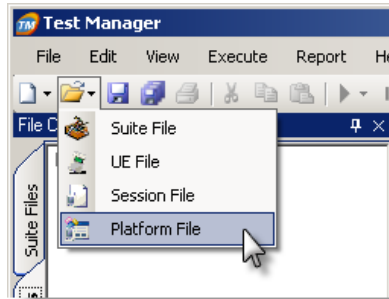

Figure 4-1: Opening the Platform File
1. Open a platform file by selecting **File>Platform File**, as shown in Figure 4-1.